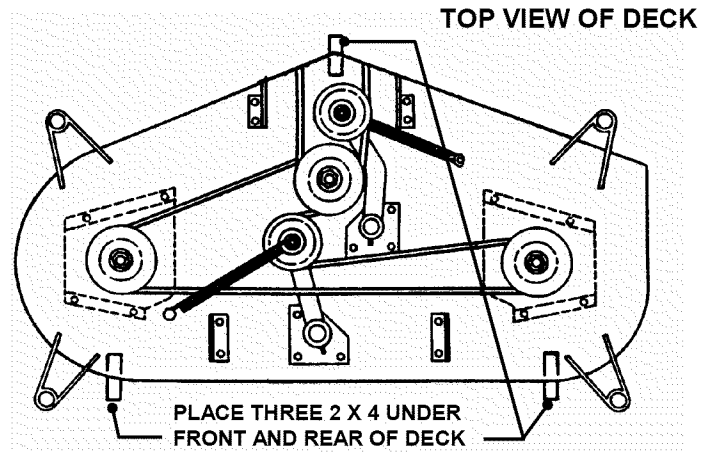

FIGURE 4.5
2. Rotate outside blades so tips are pointed to the sides of deck. See Figure 4.5. Measure the distance from blade tips to floor. If the measurement is within 1/8" from side-to-side, the deck levelness is satisfactory. If the difference from side-to-side is greater than 1/8", continue to next step for adjustment.
3. Place a 2 x 4 piece of wood under the front middle portion of deck. Place one 2 x 4 piece of wood under the rear of deck on both sides behind the two outside blades. See Figure 4.5.